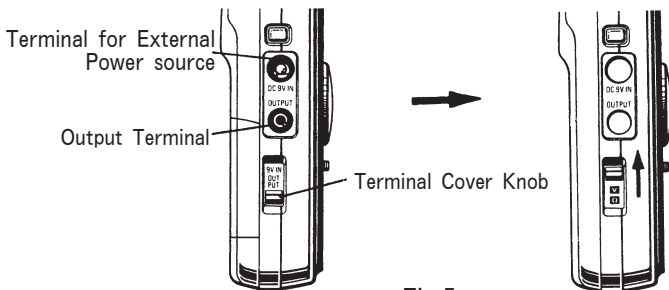

Fig.5
- (1) Set the Range Switch to 200Ω position.
- (2) Slide up the Terminal Cover Knob to uncover the COMMON Terminal. (See Fig.5)